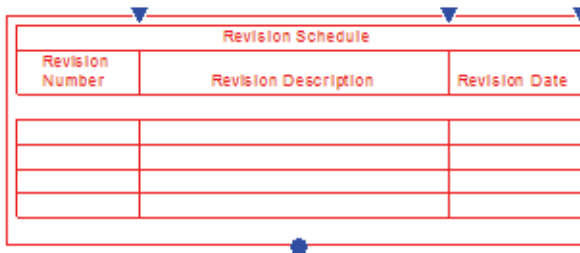

Figure 1–38
7. Drag and drop the schedule onto the sheet and modify the controls, as shown in Figure 1–38.